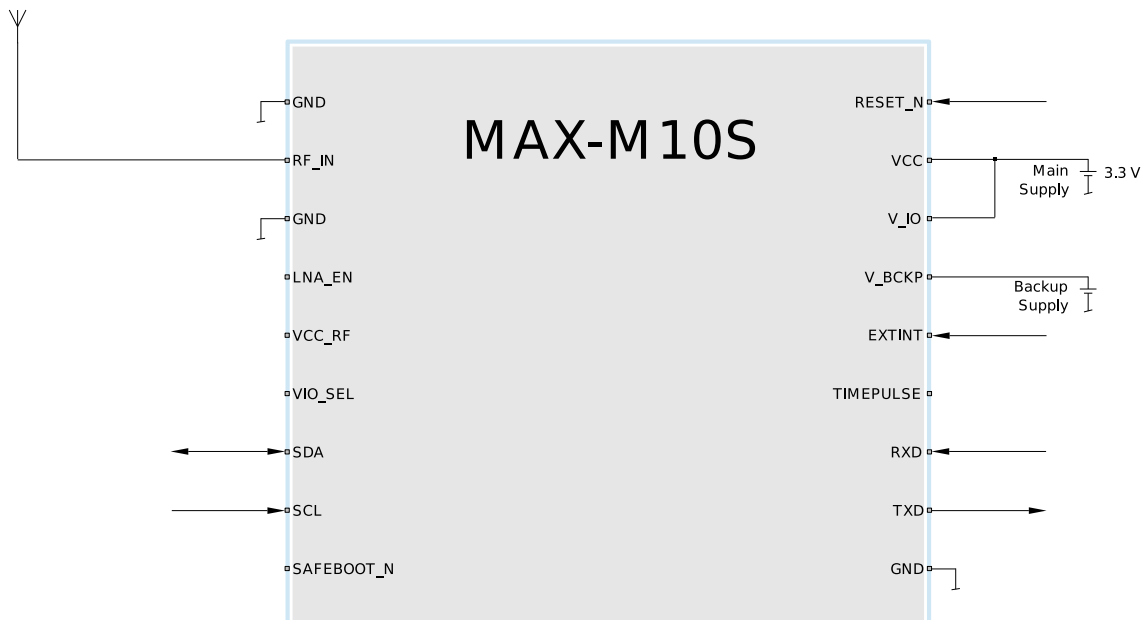
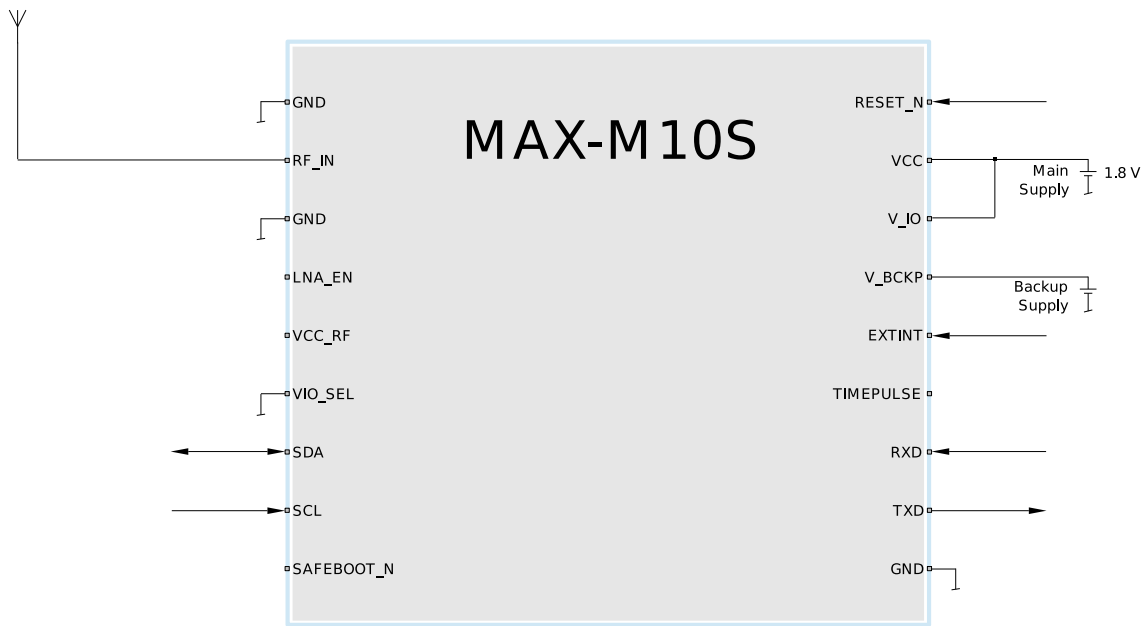

Figure 36: Typical 3.3 V design
Figure 37: Typical 1.8 V design
- VCC and V_IO are connected together to a single supply. In designs with 3.3 V supply, the VIO_SEL pin must be left open, as shown in Figure 36. In designs with 1.8 V supply, the VIO_SEL pin must be connected to GND, as shown in Figure 37.